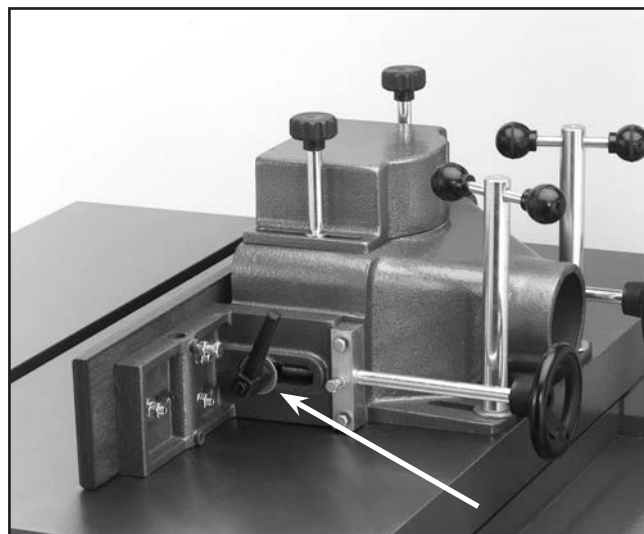

Figure 32. Location of fence locking handles.
1. Loosen the locking handles shown in **Figure 32** that hold the fences in place.